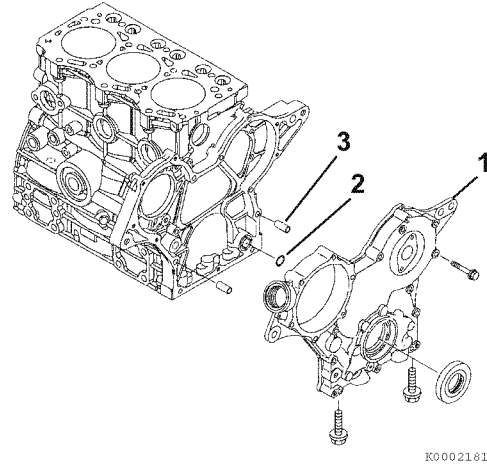

Figure 6-101
1. Apply a continuous bead of ThreeBond Liquid Gasket No. 1212F, YANMAR Part No. 977770-1212F to the mounting area of the gear case cover (1, **Figure 6-101**). Be sure to circle the bolt holes.
2. Reinstall the dowels (3, **Figure 6-101**) and a new O-ring (2, **Figure 6-101**).